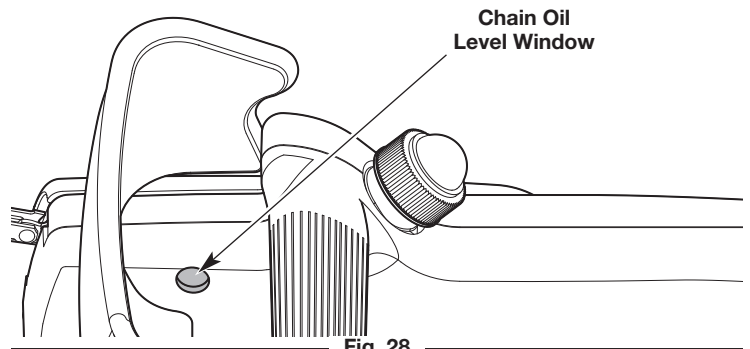

Fig. 28
2. Look into the chain oil level window; use a flashlight if necessary. The oil level should fill the window at least halfway (Fig. 28). If the oil level is too low, add bar and chain oil. Refer to *Filling the Chain Oil Reservoir*.